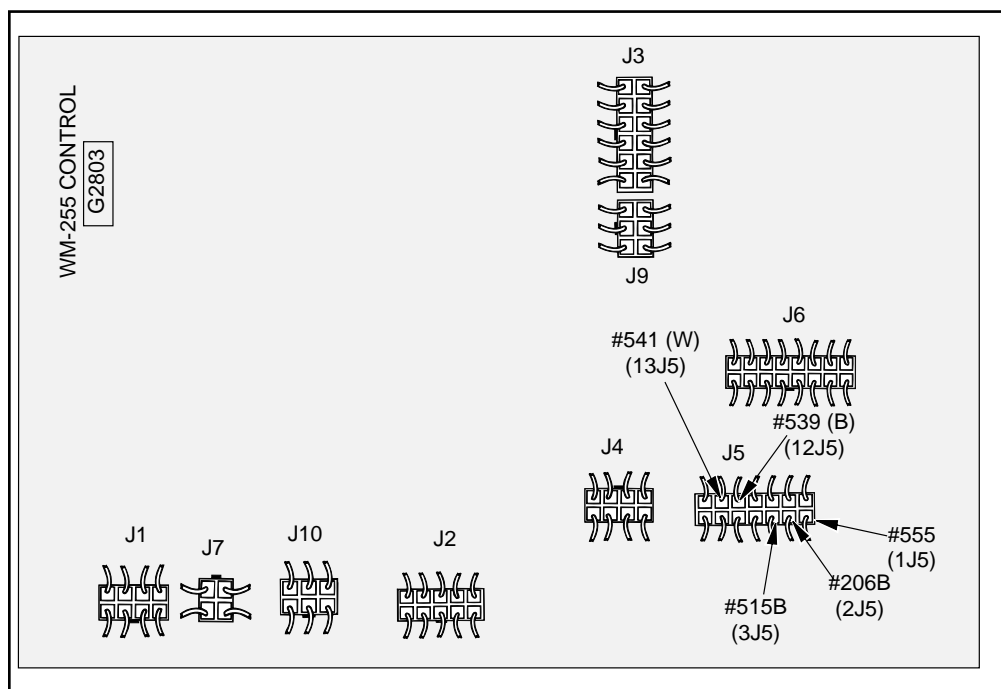

FIGURE F.8 - Plug J5 Location on G2803 PC Control Board.
3. Locate Plug J5 on the G2803 Control Board. See Figure F.8.
4. Test for 2 - 25 VDC between lead plug location 12J5 #539(B) (positive) (12J5) and lead #541(W) (13J5) (negative) to determine if the correct armature voltage is being supplied. See Figure F.8.
1. Test for 1.5 - 3.5 VDC between lead #555 (positive) (1J5) and lead #206B (negative) (2J5) . See Figure F.8 for pin locations.
1. Test for 15 VDC between lead #515B (positive) (3J5) and lead #206B (negative) (2J5) . See Figure F.8 for pin locations.